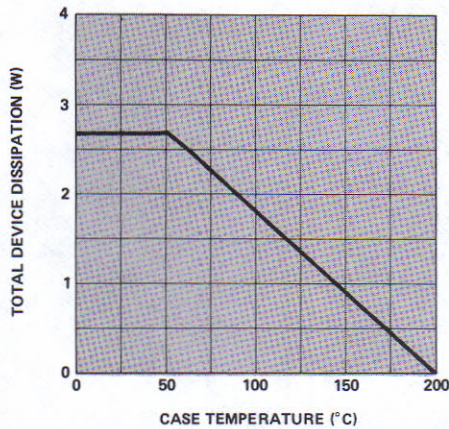

Figure 7. Maximum Power Dissipation Curve for $\theta_{jc} = 55^\circ\text{C/W}$, $T_{j\text{MAX}} = 200^\circ\text{C}$.
3. See Figure 7 for derating conditions.